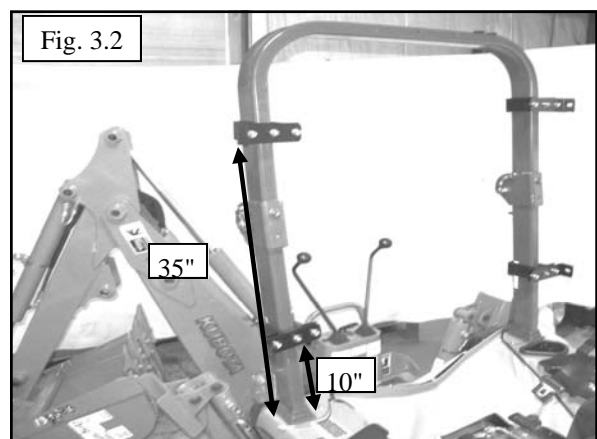

Fig. 3.2
3.2 Per figure 3.2, loosely attach the rear mounts and roll bar brackets with eight 1" long carriage bolts, flat washers, and nuts. Position the lower set of brackets approximately 10" from the top of the fender to the bottom of the bracket and the upper set 35" from the fender to the bottom of the bracket.